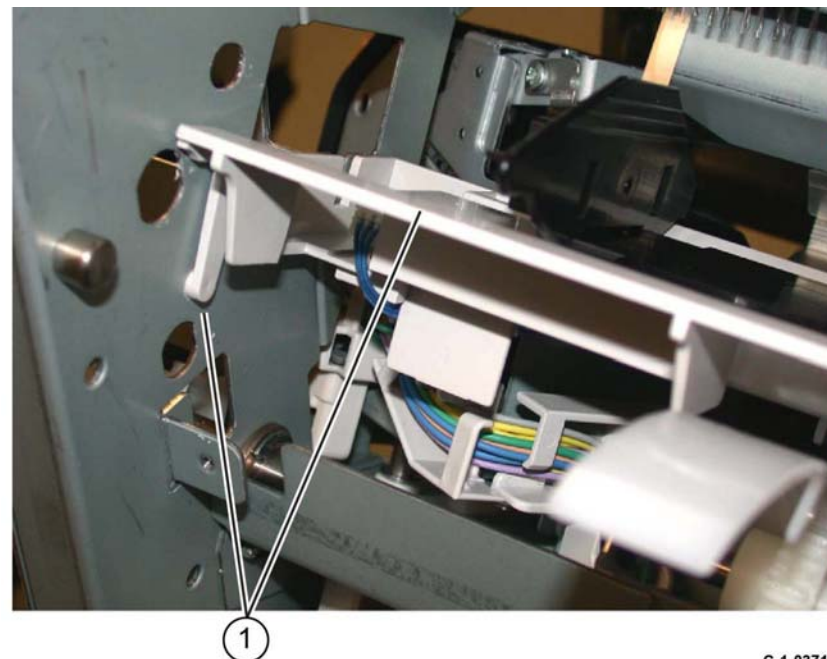

Figure 10 Compiler tray assembly removal
17. Remove the compiler tray assembly (1), Figure 10.